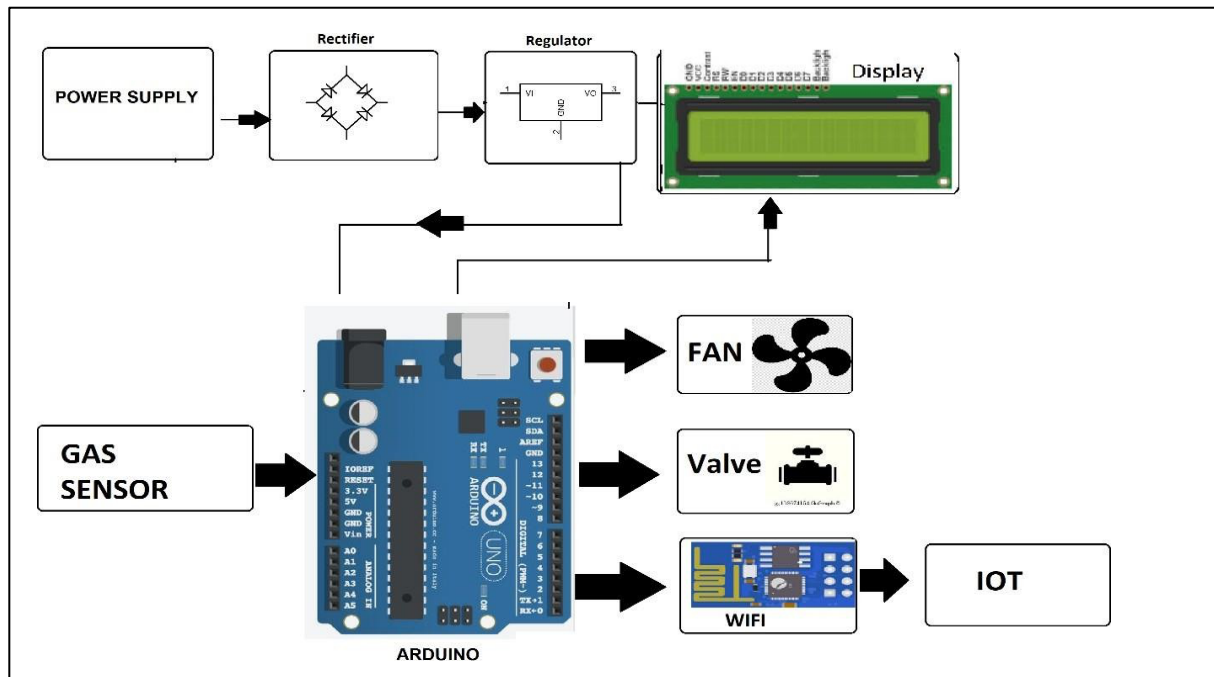

Figure 2.1: Arduino Uno serving as the central microcontroller in the gas detection system by KGandhi
| Figure 2.1: Arduino Uno serving as the central microcontroller in the gas detection system by KGandhi | 3 |
- **Buzzer, LEDs, Fan, Valve:** These components act as actuators for alerting or responding to high gas levels. The buzzer and red LED alert users audibly and visually, while the green LED indicates normal conditions. A small DC fan or solenoid valve can simulate ventilation or emergency shutdown mechanisms. Refer to **Figure 2.1** for full hardware prototype showing LED, buzzer, fan, valve, and LCD connections.